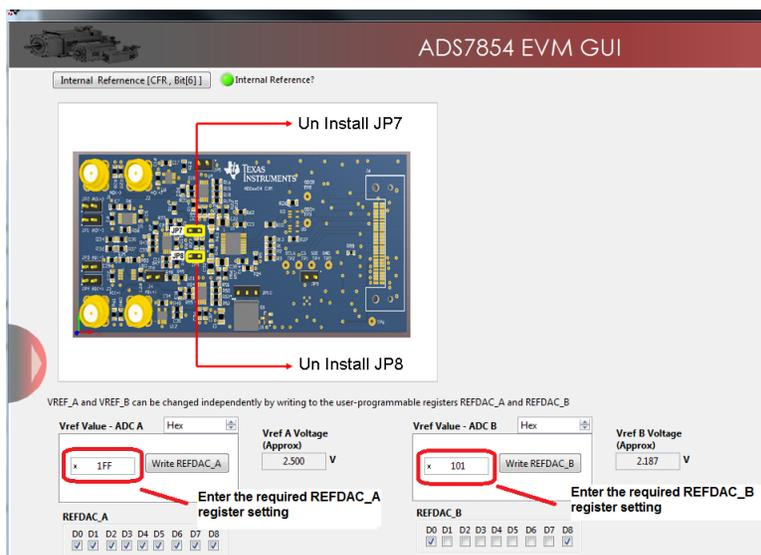

Figure 17. Programming the REFDAC Registers in the ADSxx54EVM
- The ADSxx54 device incorporates two internal programmable 2.5-V reference sources. When selecting the dual, internal programmable reference, independently change the voltages at VREF_A and VREF_B by writing to user-programmable registers REFDAC_A and REFDAC_B. The *Vref Value-ADC A* and *Vref Value-ADC B* control panels contain the REFDAC_x register settings. The reference voltage can be programmed in the range of 2.5 V to 2.0 V by entering the REFDAC_x register value in the control panel and clicking the *Write REFDAC_x* button. Figure 17 shows the internal reference *Vref Value-ADC x* control panels in the *ADSxx54EVM Settings* page of the GUI.